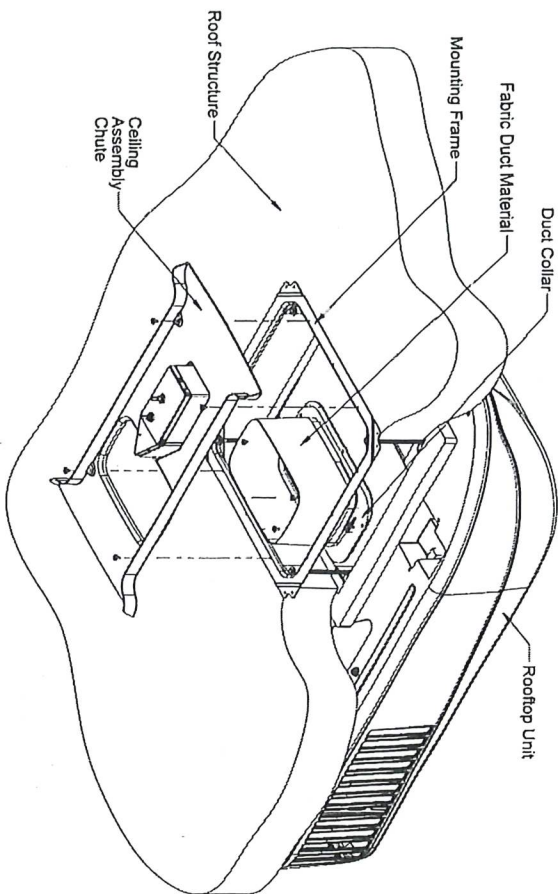

FIGURE 9
- Fold and break off the 3 tabs around the inner opening of the duct collar. Fasten the duct collar to the air conditioner basepan with 3 provided screws (See Figure 9).
- Raise the ceiling assembly chute to the unit mounting frame and secure the chute with four provided screws (See Figure 9).